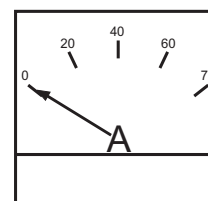

Figure 25. Ammeter (No Load)
10. The ammeter (Figure 25) will indicate zero amps with no load applied. When a load is applied, this meter will indicate the amount of current that the load is drawing from the generator.